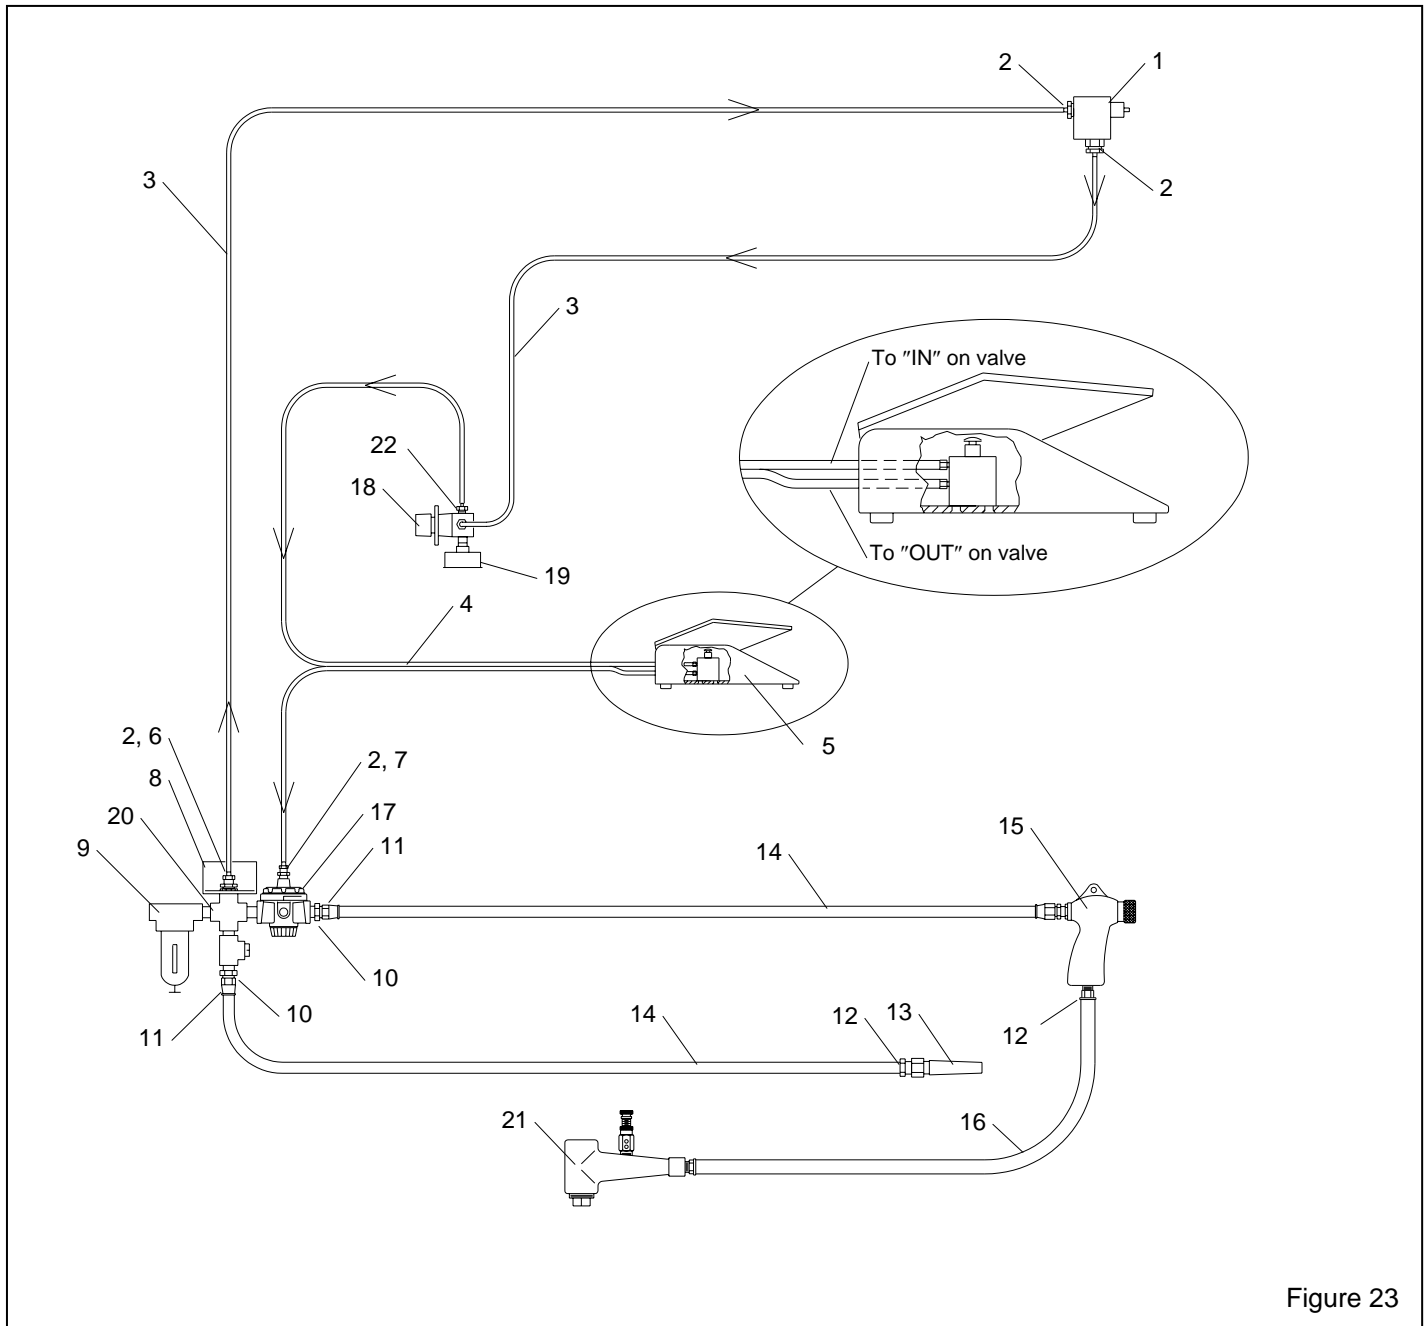

Figure 23
9.3 Cabinet Plumbing assembly, Figure 23